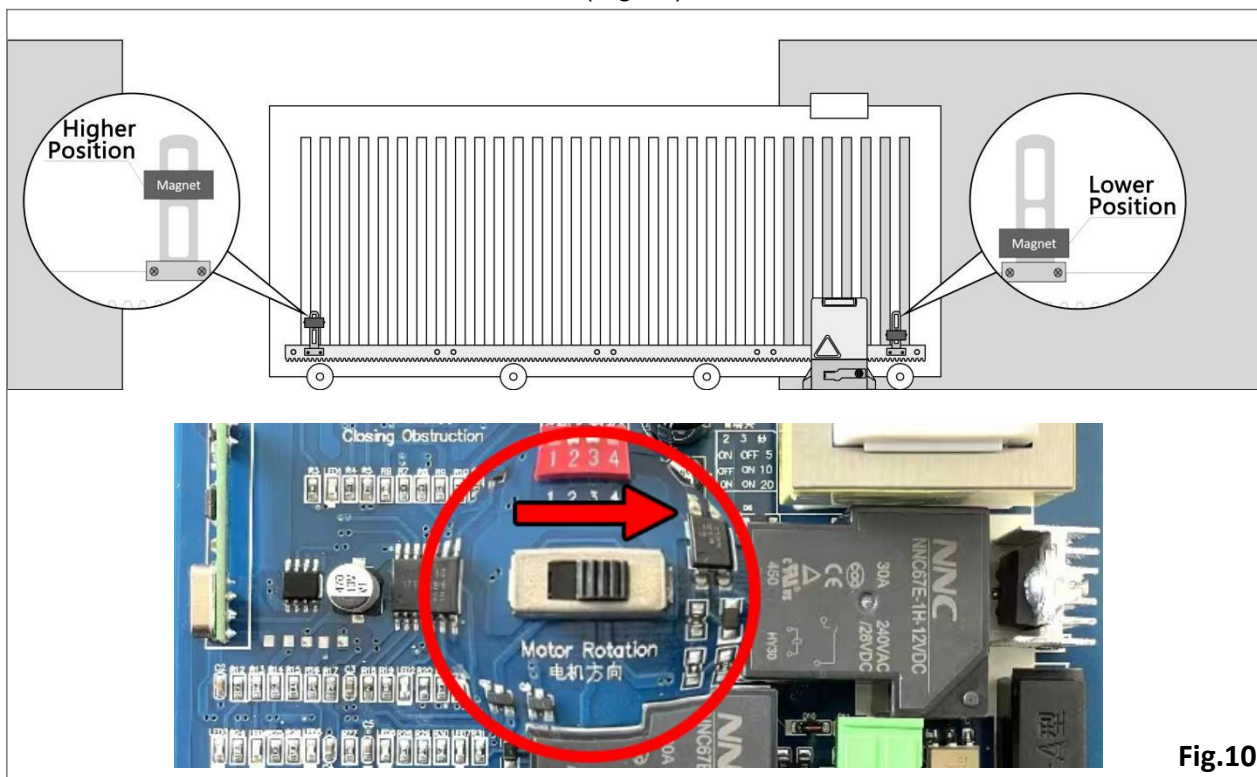

Fig.10
- If the motor is installed on the RIGHT side to open the gate (viewed from inside the gate), place the left magnet higher and the right magnet lower. **Make sure to turn the "Motor Rotation" on the PCBA to the RIGHT.** (Fig.10)